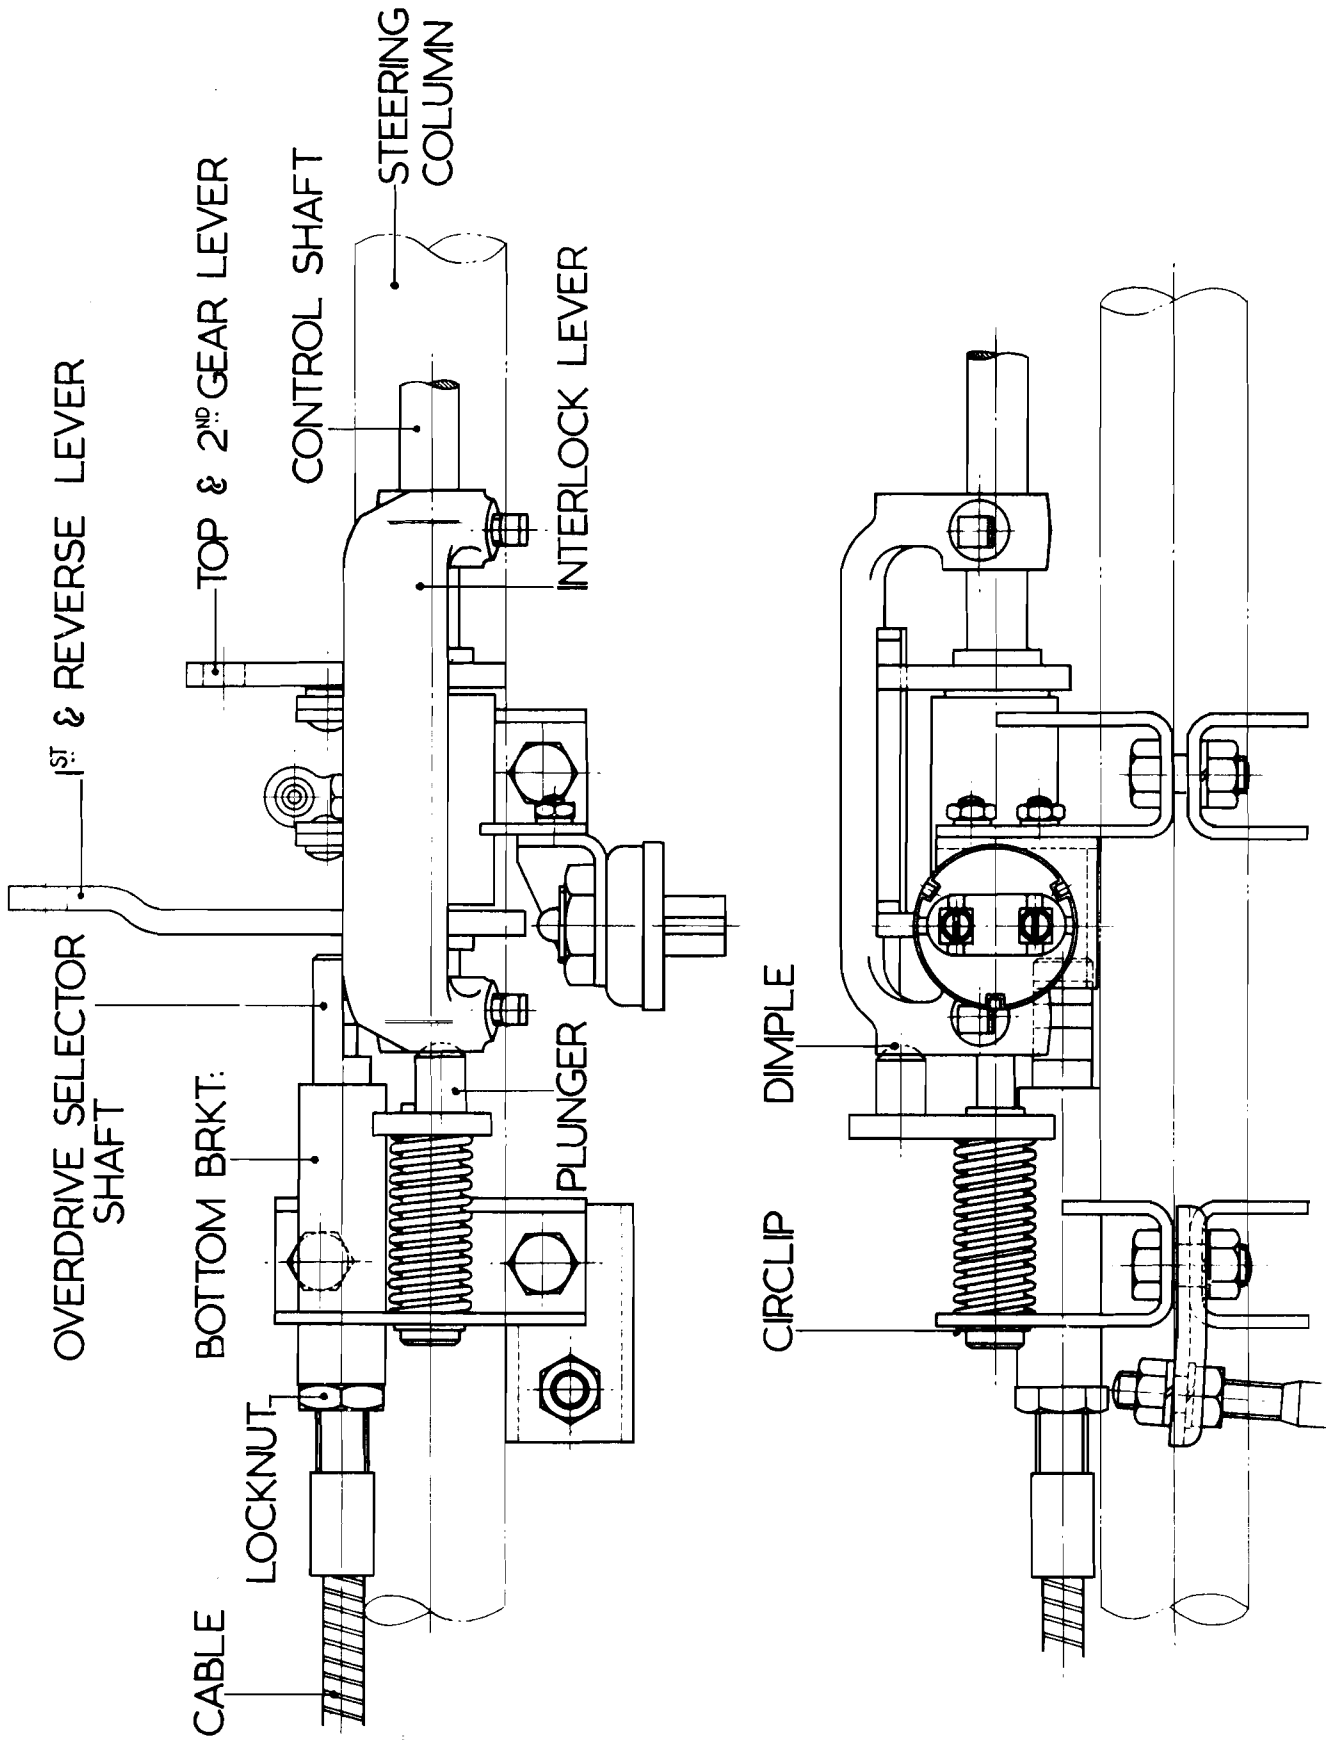

Fig. 16. Showing interlock and plunger assembly for L.H. steering models.
5. Slide the overdrive selector shaft (see Fig. 16) into its innermost position in the bottom bracket and screw the inner portion of the control cable into this shaft approximately $\frac{1}{2}$ ".
7. Feed the bottom bracket on to the steering column threading the control shaft (Fig. 16) through the plunger assembly.
8. Fit the bottom clamping bracket (Fig. 16) loosely and tap bracket upwards until the plunger just enters the dimple on the lower face of the interlock lever and the circlip just touches the bracket (see Fig. 16). Any space between the circlip and the bracket indicates too much spring pressure.